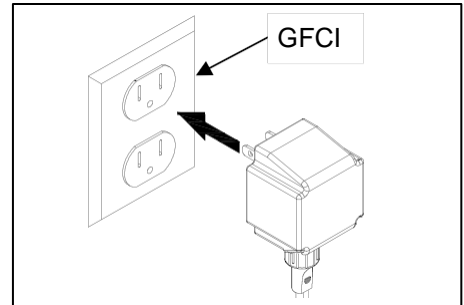

Fig. 10
10. Plug the transformer into a properly grounded electrical outlet. Fig. 10